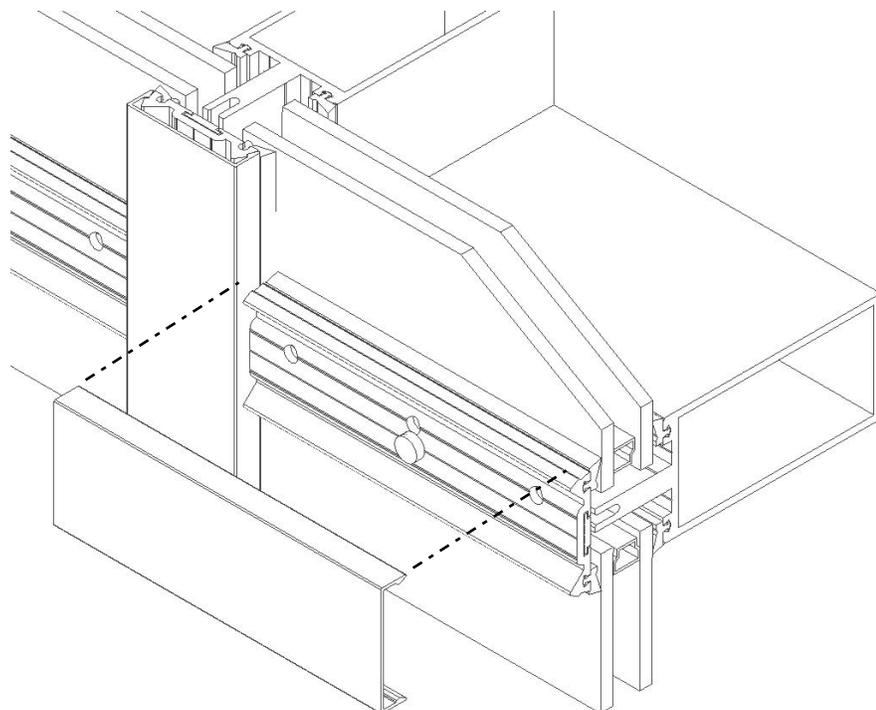

Figure 27: Install the horizontal snap-on cover.
- Install the horizontal snap-on cover as shown in Figure 27.